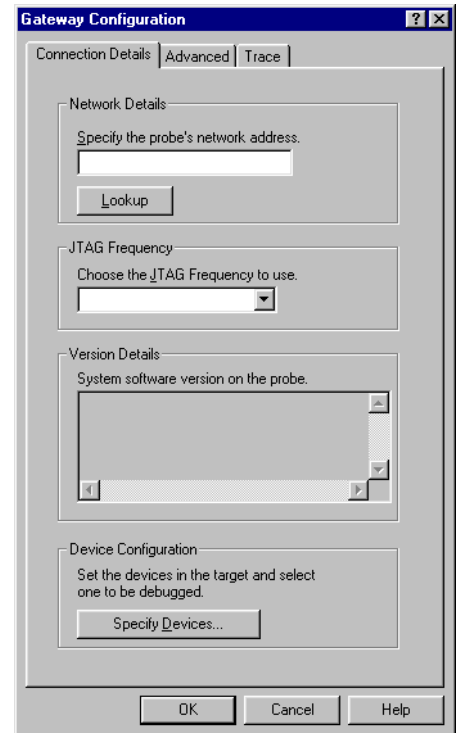

Figure B-16 Gateway Configuration dialog box
4. Click on **Configure** to display the Gateway Configuration dialog box (Figure B-16).